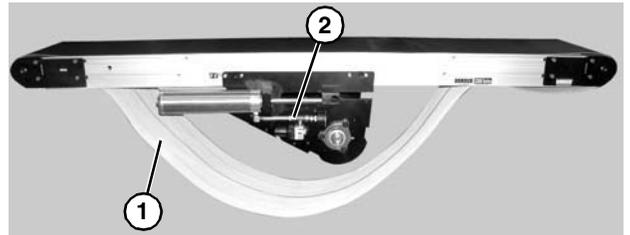

Figure 28
11. Remove belt (Figure 28, item 1) from center drive module (Figure 28, item 2) and conveyor.